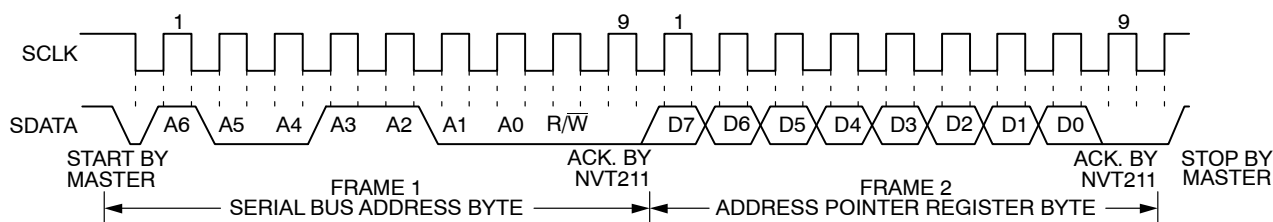
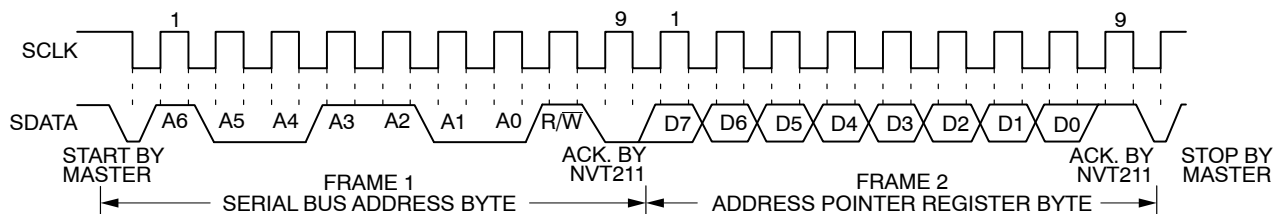

Figure 16. Writing to the Address Pointer Register Only
Figure 17. Reading Data from a Previously Selected Register
- If the address pointer register value of the NVT211 is unknown or not the desired value, it is first necessary to set it to the correct value before data can be read from the desired data register. This is done by writing to the NVT211 as before, but only the data byte containing the register read address is sent, because data is not to be written to the register see Figure 16. A read operation is then performed consisting of the serial bus address, R/W bit set to 1, followed by the data byte read from the data register see Figure 17.
- If the address pointer register is known to be at the desired address, data can be read from the corresponding data register without first writing to the address pointer register and the bus transaction shown in Figure 16 can be omitted.